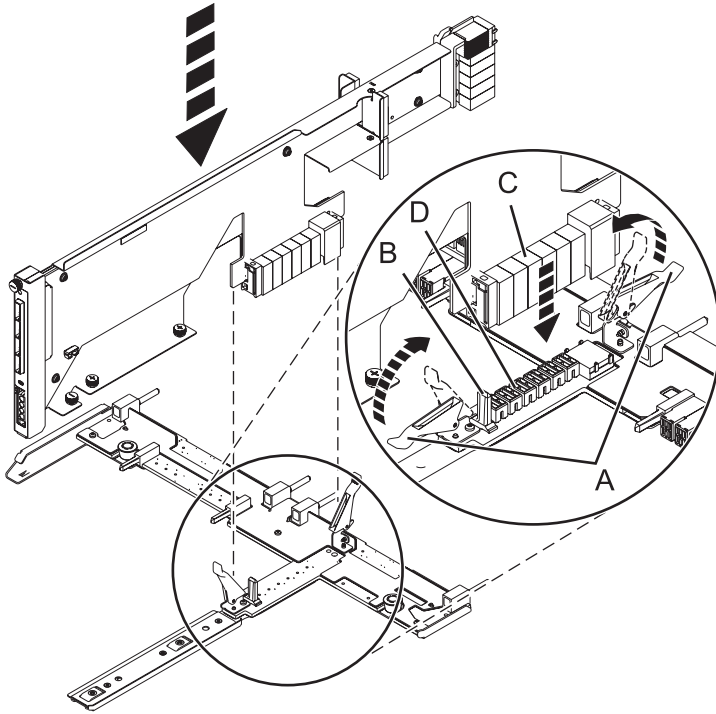

Figure 85. Installing the SAS conduit card into the midplane
- a. Place the card connector (C) on the midplane connection (D) using the guide track (B) to ensure a good connection.
- b. Lift the handle (A) to seat and secure the SAS conduit card to the midplane as shown in Figure 85 on page 114.